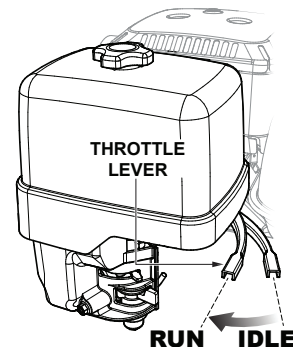

Figure 22. Throttle Lever (Run)
11. To begin mixing, place the throttle lever (Figure 22) in the **RUN** position.